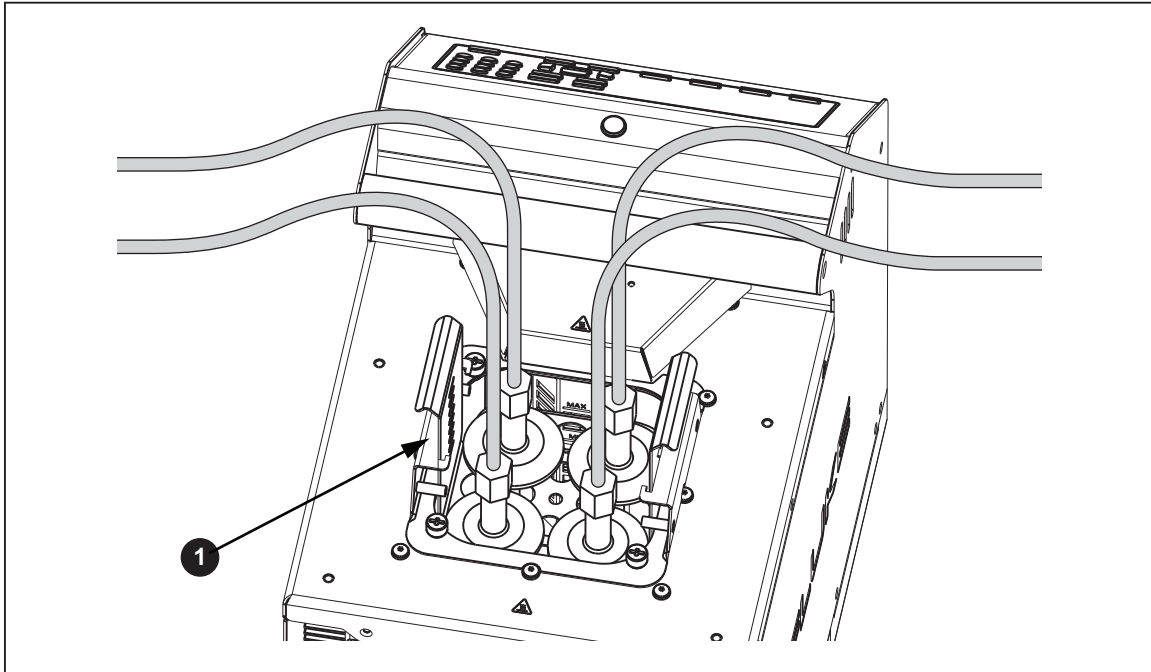

Figure 9. Adjustable Probe Fixture
Use the adjustable probe fixture (model 7109-2027) to hold up to four tri-clamp temperature sensors. The device fits inside the tank opening and attaches to the top panel of the Product with four thumb screws. The height of the platform can be adjusted for proper immersion of the stems and flanges of the temperature sensors. To adjust the height, slightly squeeze the tabs inward on the height adjustment bracket ❶ shown in Figure 9.